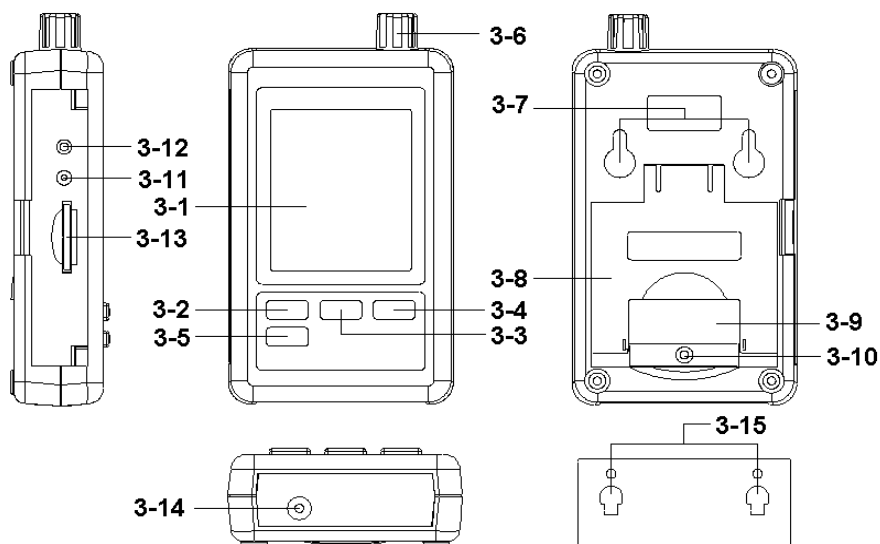

Fig. 1
- \* Loose the " Screw of the battery cover " ( 3-10, Fig. 1 ) and take away the " Battery Cover " ( 3-9, Fig. 1 ) from the meter.
- 2) The " Display " ( 3-1, Fig. 1 ) will show both the humidity and the temperature value that sensing from Humidity/Temp. sensor " ( 3-6, Fig. 1 ).
Prepare a " SD memory card " ( 1 GB to 16 GB, optional ), insert the SD card into the " SD card socket " ( 3-13, Fig. 1 ) with the correct direction exactly.
Press the " Logger button ( 3-2, Fig. 1 ) > 2 seconds continuously, until the Display show the indicator " DATALOGGER ", release the " Logger Button " ( 3-2, Fig. 1 ), then the measuring data along the time information will be saved into the memory circuit.
During execute the Datalogger function ( Display show the " Datalogger " indicator ), press the " Logger button " ( 3-2, Fig. 1 ) > 2 seconds continuously, until the Display indicator " DATALOGGER " is disappeared, release the " Logger Button " will finish the Datalogger function.
Press " Time button " ( 3-3, Fig. 1 ) > 2 seconds continuously, the LCD display will present the time information of Year/Month/Date, Hour/Minute/Second and the sampling value.
Under do not execute the Datalogger function, press the " SET button " ( 3-5, Fig. 1 ) > 2 seconds continuously will enter the " Setting " mode., then release the " SET button ". Following press the " SET button " (3-5, Fig. 1 ) once a while in sequence to select the seven main function, the display will show :
- 1) Use the " ▲ Button " ( 3-3, Fig. 1 ) or " ▼ Button " ( 3-4, Fig. 1 ) to select the upper value to " yES " or " no " .
- 2) If select the upper to " yES ", press the " Enter Button " ( 3-2, Fig. 1 ) once again, the Display will show text " yES Enter " to confirm again, if make sure to do the SD memory card format, then press " Enter Button " once will format the SD memory clear all the existing data that already saving into the SD card.
- 1) Use the " ▲ Button " ( 3-3, Fig. 1 ) or " ▼ Button " ( 3-4, Fig. 1 ) to adjust the value ( Setting start from Year value ). After the desired value is set, press the " Enter button " ( 3-2, Fig. 1 ) once will going to next value adjustment ( for example, first setting value is Year then next to adjust Month, Date, Hour, Minute, Second value ).